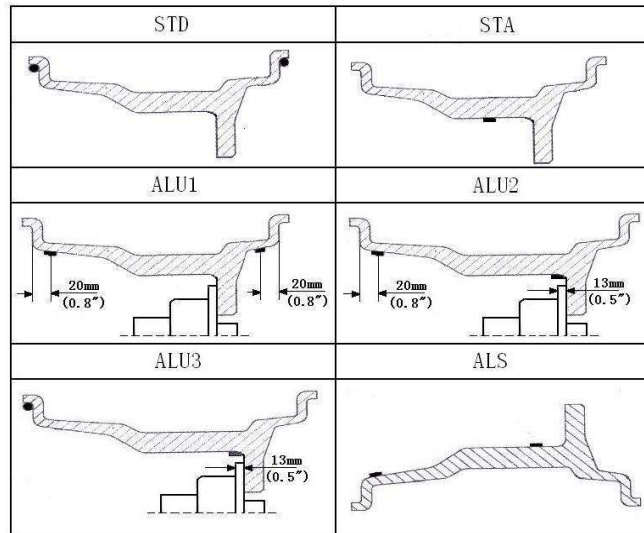

Figure 3.0
- Select the appropriate balance mode, and the installation position of the balance weight under different balance modes as shown in Figure 3.0.
- Install the balance weight at the corresponding position (**All weights are to be applied at 6 o'clock position with the exception of STD mode where the weights are applied at 12 o'clock position, STD mode is the default mode when the machine is first powered on**). According to different balance modes, install the balance weight at the corresponding position. See Figure 3.0.